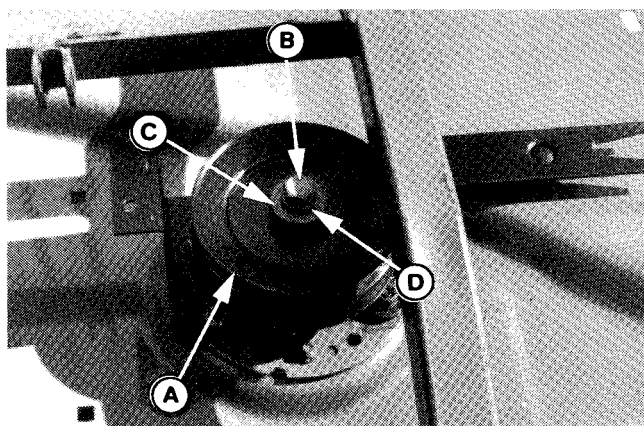

Figure 5.
The new 2" capscrew (B, figure 5) installed in step 12 is packaged with the collection system box and not with the turbo blower.
12. Install the new double-groove pulley (A, figure 5) with 7/16-14 x 2.0 capscrew (B) and existing washer (C) and lockwasher (D). Torque to 55-70 ft. lbs. (74-95 Nm). Use a wood block to prevent blade from turning. Do not install belt at this time.